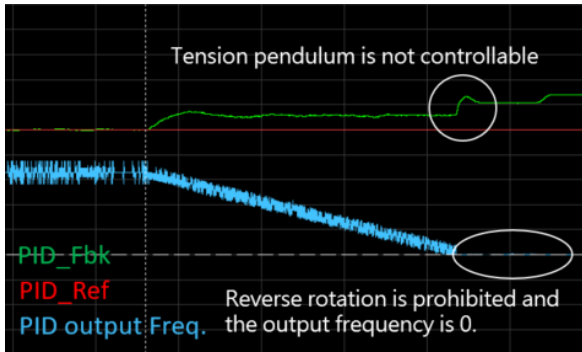

Figure 10
- ✗ If the output frequency decreases to 0, and at this time, the PID error is still negative, the pendulum is not in a good position, as shown in Figure 10.